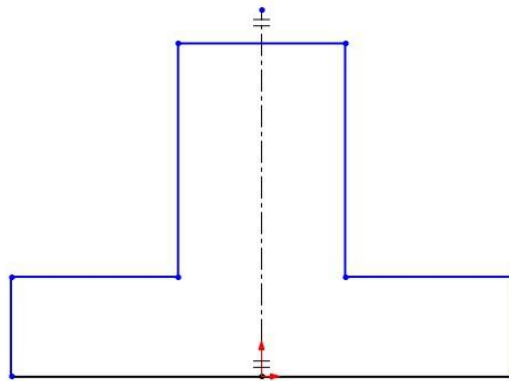

Figure 3-15 Sketch after drawing lines
7. Move the cursor horizontally toward the right and click to specify the endpoint of the line when the cursor snaps to the centerline; a mirror image is created automatically on the other side of the mirror line. The sketch after drawing the lines is shown in Figure 3-15.